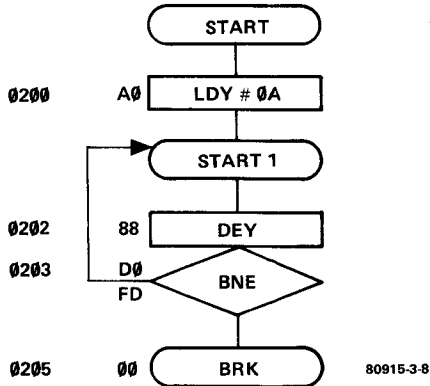

Figure 8. Example of a 'delay loop' using a conditional branch instruction.
Let us take a look at the flow chart in figure 8. At the start of the program (0200) the Y register is loaded with the value 0A. The next instruction is DEY, which reduces the value in the Y register by one – thus 0A becomes 09. Moving down the flow chart we come to a conditional branch instruction, BNE. From the above we discover that the microprocessor will only effect a branch if the contents of the Y register are not equal to zero. At present time the Y register contains 09 therefore the processor *will* branch back to the address containing the DEY instruction. As soon as the value in the Y register becomes zero the processor will stop branching and the program will stop as the last instruction is BRK. This program does nothing more than continually decrement the contents of the Y register until the value contained there becomes zero. Routines such as this are often used as 'delay loops'.
There are two important aspects to take into account when calculating displacements for branch instructions: where the branch originates and where it must end. This is quite easily seen on a flow chart such as the one in figure 8, but when there are numerous branch instructions in a program it is less work to let the JC perform all the calculations.
Using figure 8 as an example, this can be carried out as follows:
displacement-routine BRANCH. Once the start address has been entered, the GO key is pressed. The low order byte of the address where the branch instruction is stored can then be keyed in (03), immediately followed by the low order byte of the destination address (02). The two address bytes will appear on the left-hand side of the display and the data displays will show the calculated displacement (FD). The reset key can now be pressed and the program from figure 8 can be entered: